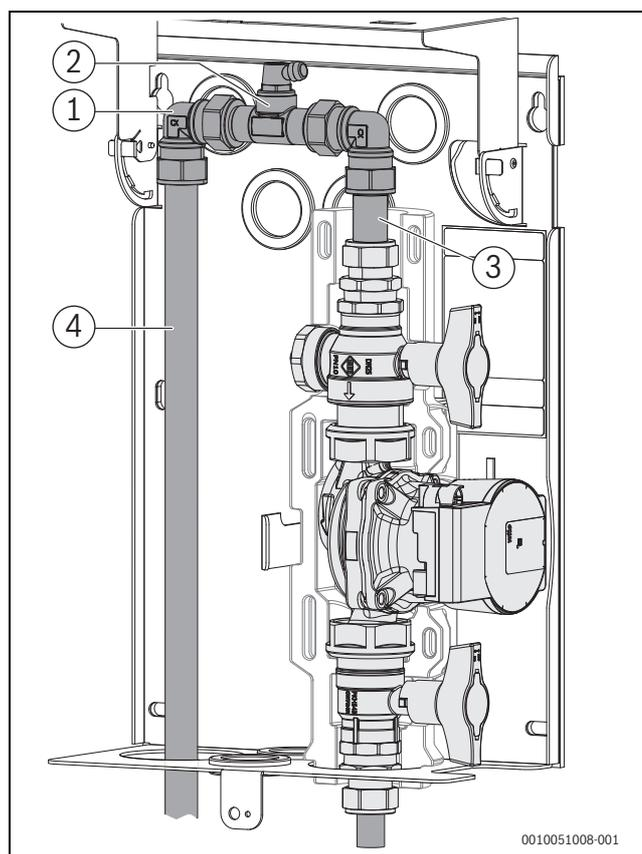

Fig. 20 Establishing the hydraulic connection (U-shaped) (option 2, hybrid manager and mounting bracket not shown)
- ▶ Mount the Ø 22 mm elbow clamping ring fitting and the pipe connector from the scope of delivery on the pump line (→Fig. 20).
- ▶ Provide connector pipe (→Fig. 20, [4]) with thermal insulation in accordance with local regulations.